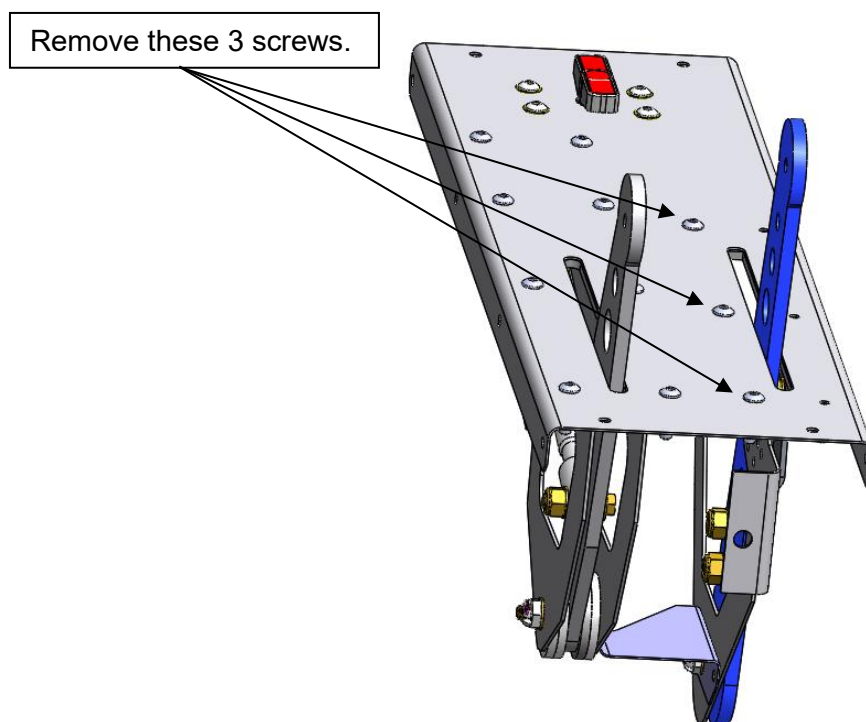

Figure 15
Step 8: Remove the 3 screws retaining the remaining bracket as seen in Figure 15.